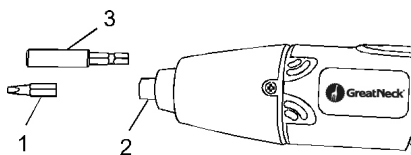

Fig. 2
2. Insert the screwdriver bit (1) fully into the screwdriver collet (2) (Fig. 2).